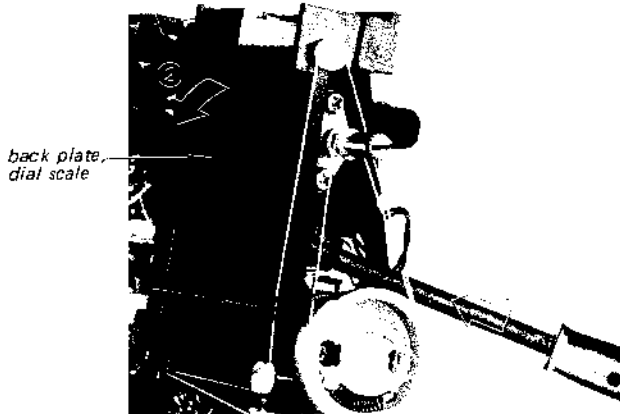

Fig. 2-7.
- Push the back plate by a stick as shown in Fig. 2-7 and remove the back plate.